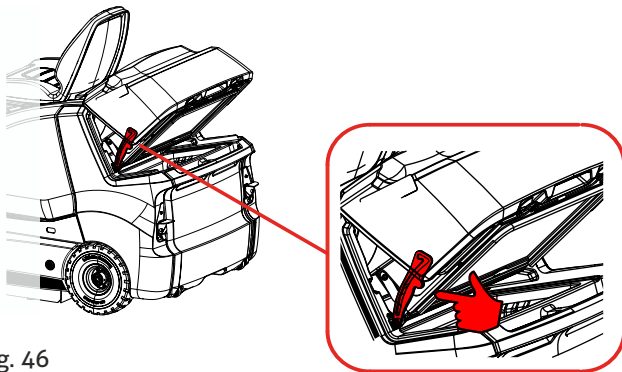

Fig. 46
- Raise the filter cover slightly to close and push the rear panel (holds the filter cover) slightly back (Fig. 46).